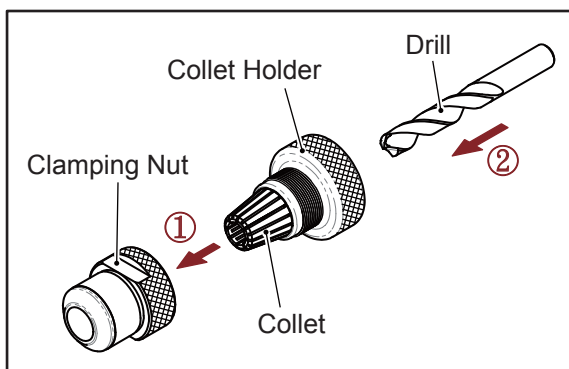
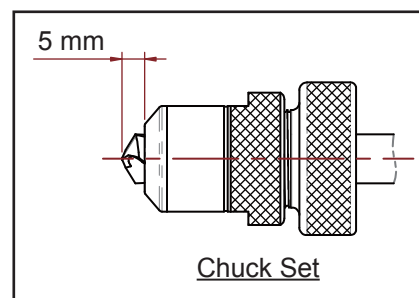

Fig. 6-2
Fig. 6-3
3. Screw in a little bit by clamping nut (Fig. 6-2 Step ①), then insert the drill through the collet holder (Fig. 6-2 Step ②), and push in until the drill is out of the clamping nut about 5mm. (Fig. 6-3)